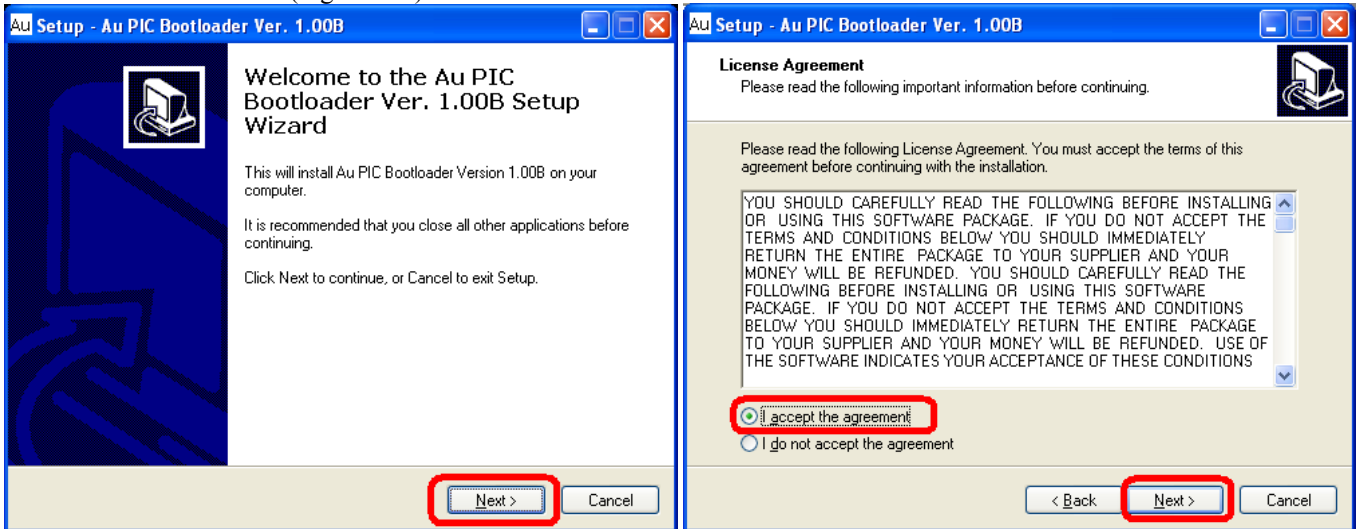

Figure C-2 Figure C-3
2. “Welcome to the Au PIC Bootloader Setup Wizard” window show up, click “Next” (Figure C-2)